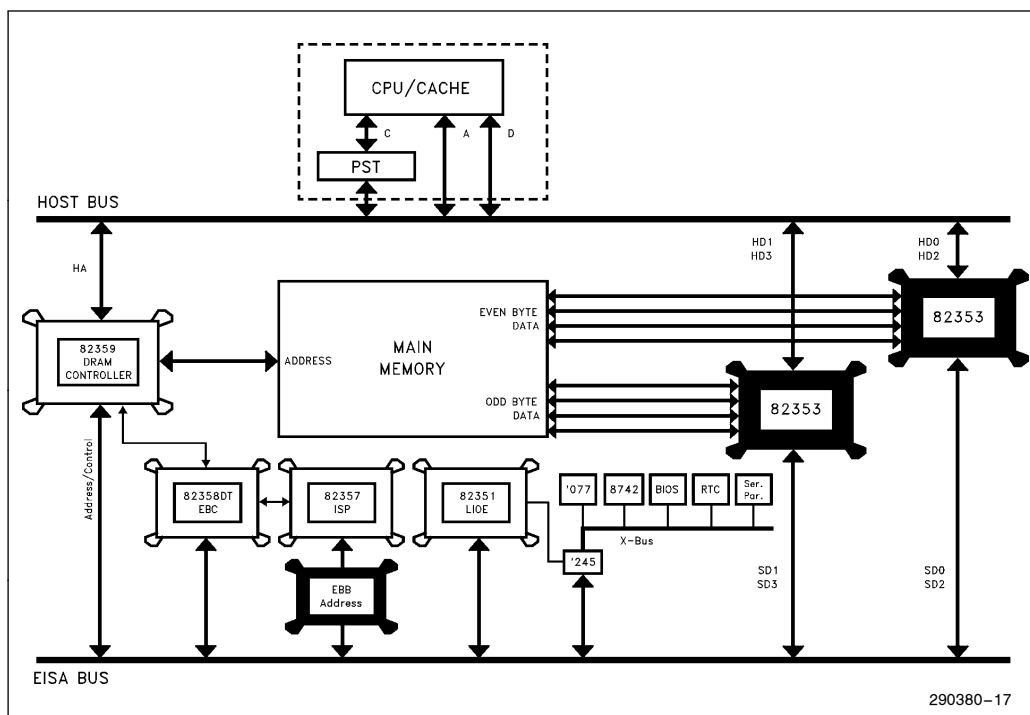

Figure 4-7. Data Swap Logic (82350DT System/Enhanced Configuration)
**In an 82350DT/enhanced environment,** the data swap logic is implemented using two 82353 (ADP) devices. The swap logic is positioned in this system as shown in Figure 4-7.